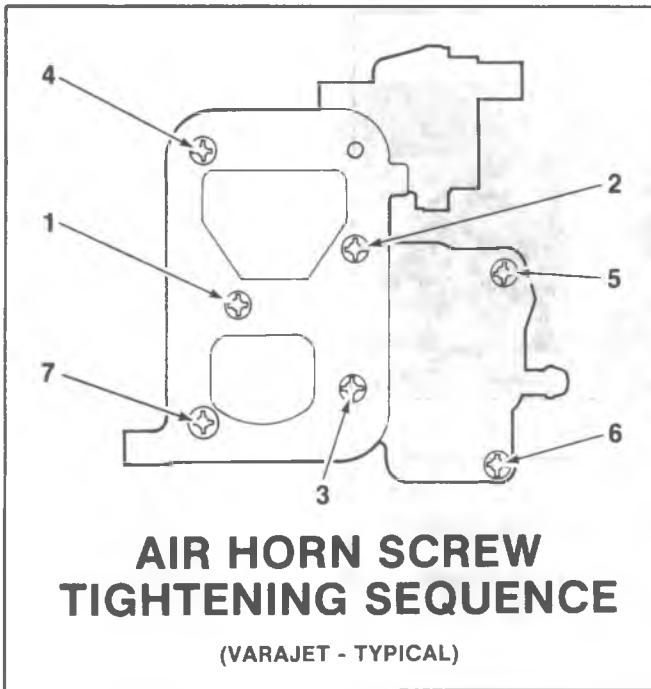

Fig. 6C2-18--Air Horn Tightening Sequence
2. Install vent and screen assembly over vent stack in air horn. Then, install (7) air horn to bowl attaching screws and lockwashers, following proper installation location and tightening sequence. All air horn screws must be tightened evenly and securely. See Fig. 6C2-18 for proper tightening sequence.
4. Install new seal in recess of air horn, then install hot idle compensator valve and retain with (2) small attaching screws. Tighten screws securely (Fig. 6C2-11).
5. Install plastic bushing in upper hole in vacuum break and choke lever, making sure small end of bushing faces retaining clip when installed. With inner coil lever and intermediate choke lever at the 12 o'clock position, install intermediate choke rod in bushing. Retain rod with new clip, pressing clip securely in place with needlenose pliers (Fig. 6C2-10). Make sure clip has full contact on rod but is not seated tightly against bushing. Rod to bushing clearance should be .030" (.8mm).
6. Install idle speed solenoid, lockwasher and retaining nut on secondary side vacuum break (Fig. 6C2-3). Tighten nut securely. Then, bend back two (2) retaining tabs on lockwasher to fit slots in bracket.
7. Rotate secondary side vacuum break and bracket assembly and insert end ("T" pin) of vacuum break link into upper slot of vacuum break and choke lever. Install bracket on throttle body and install countersunk screws. Tighten screws securely (Fig. 6C2-3).